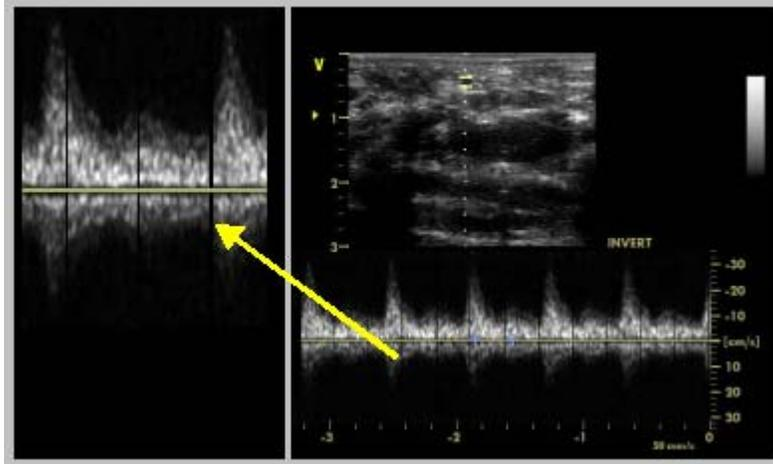

Fig. 3-1
**Note:** When applying the "superficial" preset to the 12L-RS while using it in PW Duplex or triplex modes, thin black vertical strips may appear, as shown in image below (Fig. 3-1). This may appear only when Doppler-gate is placed at shallow depth at distance within 5 mm of skin-line.